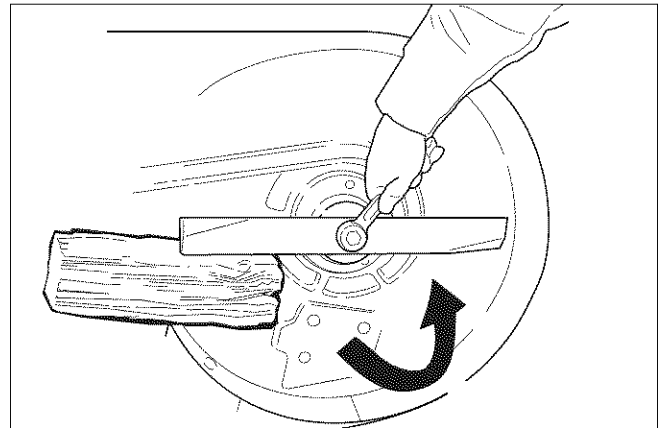

Figure 23. Loosening the Mower Blade for Removal
1. To remove the mower blade, use a 1" wrench on the flats of the spindle shaft and remove the mower blade mounting bolt with a 15/16" wrench (Figure 23).